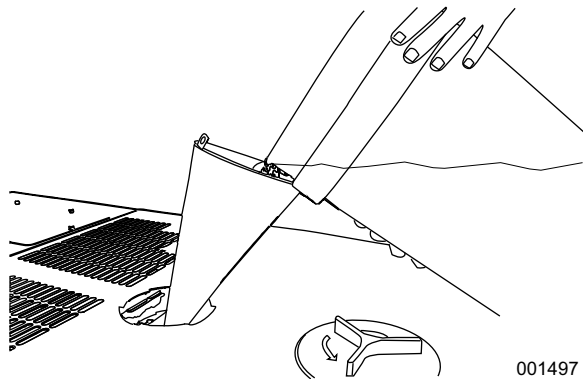

Figure 9. Adding Coolant
28. See **Figure 9**. Slowly pour coolant into filler neck until radiator is full..